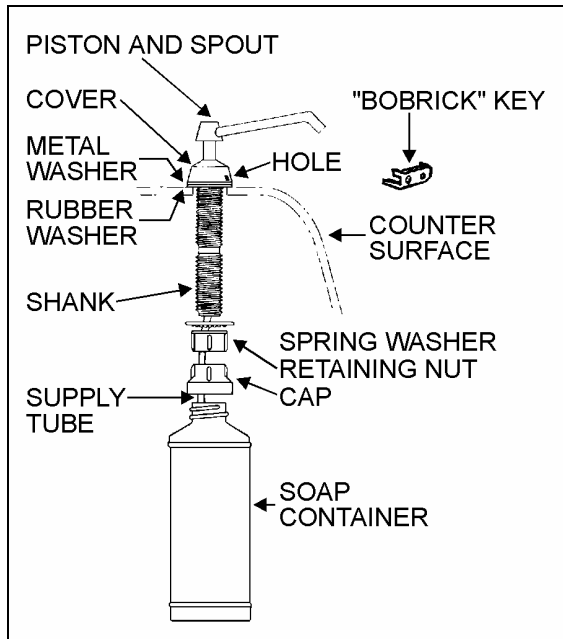

FIGURE 27: LIQUID SOAP DISPENSER
2. Insert projection at end of "BOBRICK" key into rectangular hole in cover (Fig. 27). Push straight in. While holding "BOBRICK" key in, turn cover counterclockwise about 1/8 turn.